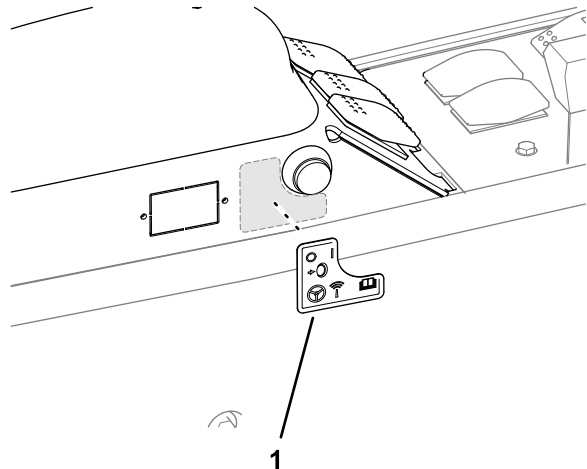

Figure 111
6. Affix the AutoSteer remote-engage decal to the arm panel as shown in Figure 111.